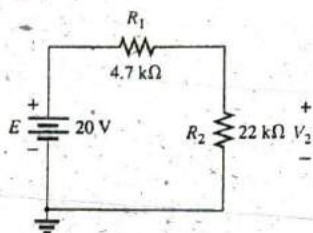

FIG. 6.112
43. For the simple series configuration in Fig. 6.112: